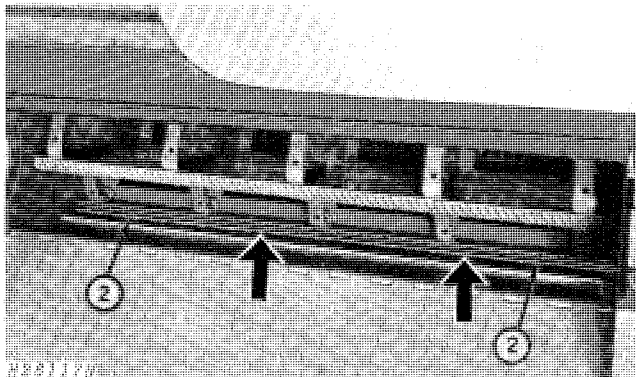

Fig. 33-Space Between A Rasp-Bar and Second Concave Grate Bar
2. At each end of the cylinder, measure the space between a rasp-bar and the second concave grate bar from the front (Fig. 33).